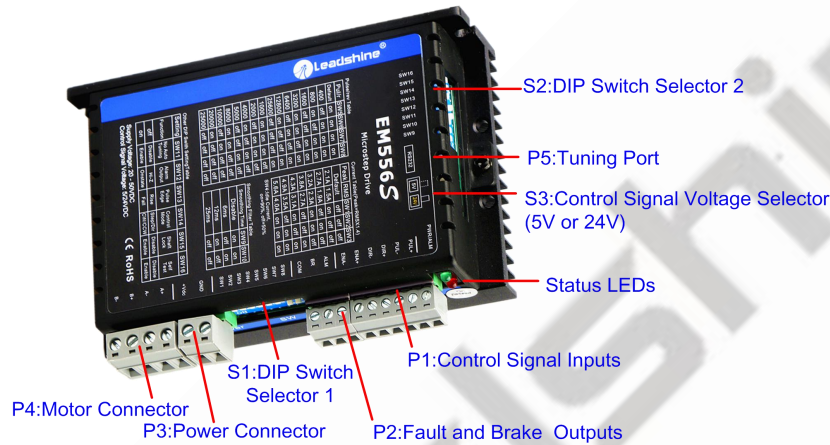

Figure 2 Connectors, DIP switches, and LED locations
(6) The activated edge of PUL and DIR is set by DIP Switch SW13
(7) The factory setting of control signal voltage is 24V, must need to set S3 (figure 2) if it is 5V
(4) The default control signal voltage is 24V, to set S3 (figure 2) if it is 5V
(5) Enable time to be at least 200ms
The EM556S can accept differential or single-ended control signals (pulse, direction, and enable) in open-collector or PNP connection through the P1 connector (figure 2). It is recommend to add an EMI line filter between the power supply and the drive to increase noise immunity for the drive in interference environments.
The first 8-bit is located on the side (DIP switch selector 1 in Figure 2) and used to configure settings of micro step resolution, output current, and motor standstill current as shown below, the factory setting of SW1-SW8 is **OFF, OFF, OFF, OFF, OFF, OFF, ON, ON**.
The second 8-bit DIP switch is located on the top (DIP switch selector 2 in figure 2), and used to configure settings of control command filtering time, motor auto-configuration, fault output impedance, pulse active edge, control mode, lock shaft, and self-test as shown below, the factory setting of SW1-SW8 is **OFF, OFF, OFF, ON, ON, OFF, OFF, OFF**.
The Third 1-bit selector is located on the top (DIP switch selector 3 in figure 2), used to configure the voltage of control signals. For the safety of optically coupled, the factory setting is 24V, which no need to connect 2K resistors like the old drives, making it easier to use. When the voltage of the control signal is 5V, the S3 must be set to 5V, otherwise, the motor won't work.